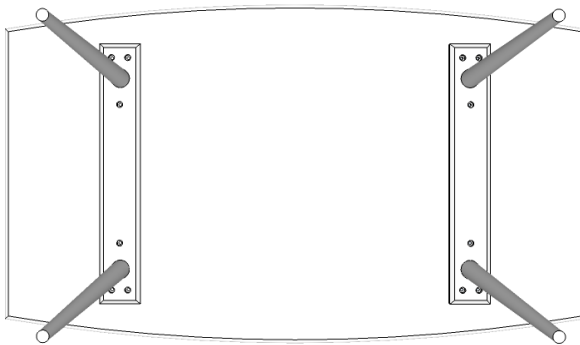

FIGURE 1
- 2) WITH THE LEGS POINTING TOWARD THE CORNERS OF THE TABLE TOP (SEE *FIGURE 1*), ALIGN THE HOLES IN THE LEG ASSEMBLIES WITH THE HOLES IN THE BOTTOM OF THE TABLE.